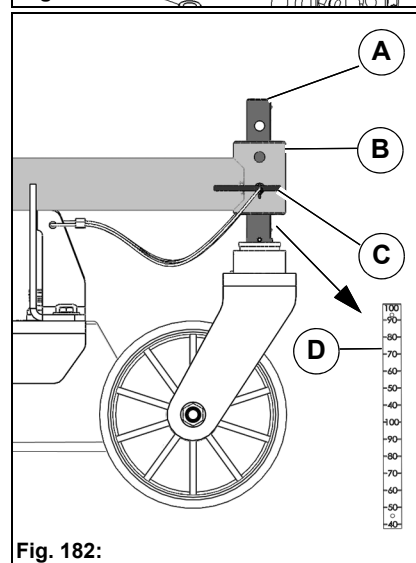

Fig. 182:
2. Pull the mounting bolt **Fig. 182-C** out and push the bolt **Fig. 182-A** of the wheel fork into the bush **Fig. 182-B** of the wheel spar until the wanted cutting height is set. You can adjust the cutting height centimetre by centimetre with the two mounting holes in the bush.
3. You can read off the cutting height on the scale **Fig. 182-D**.